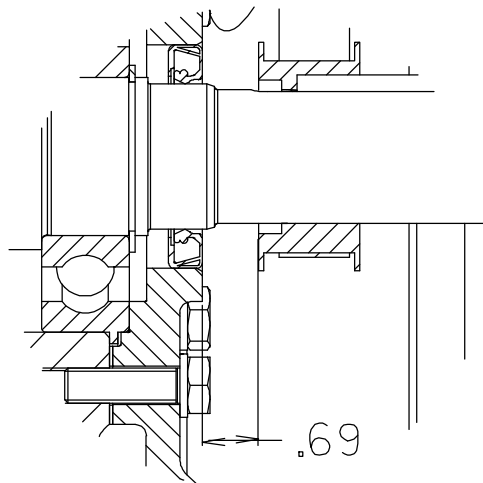

Figure 6. Drive Sprocket Positioning
See Figure 3 and install the key (32) in the shaft keyway, making sure to leave room in the keyway for the drive key (32). Install the sprocket (46, Figure 2) and bushing (45, Figure 2) on the shaft to the dimension shown in Figure 6.